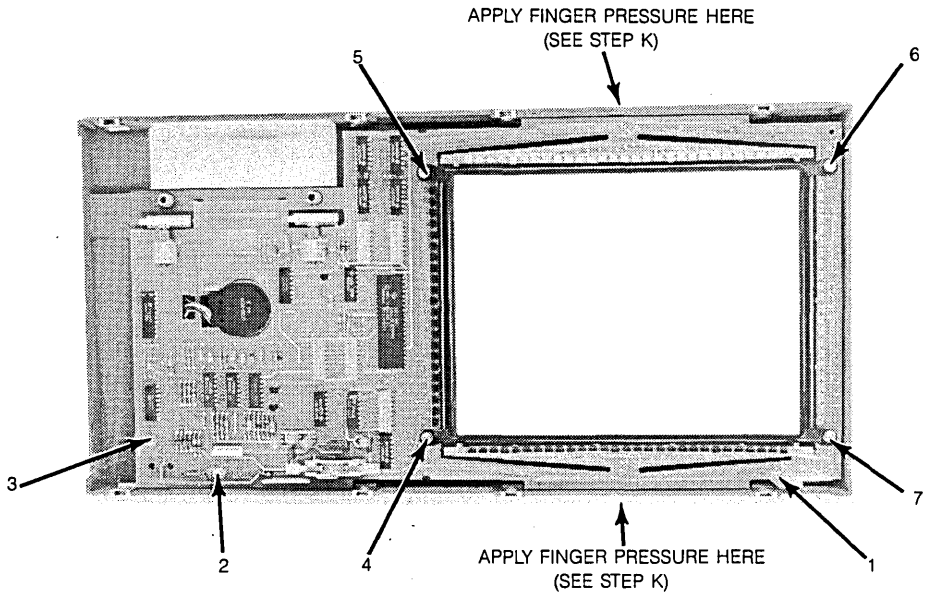

Figure 6-41. Front Panel Board Hardware Identification.
- g. Unplug the knob cable. Using a Torx T-10 driver remove the seven front panel mounting screws. Use figure 6-41 to identify the mounting screws. Remove board from front panel.
- i. Study figure 6-41 and note the number associated with each mounting screw. Install and tighten screws in the same numbered sequence as shown in figure 6-41 and explained in the following steps.